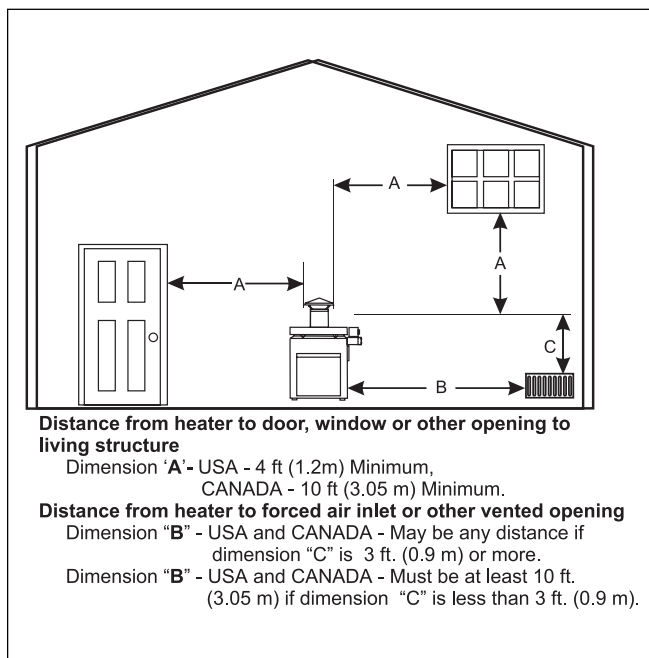

Figure 4. Outdoor Heater Installation.
Locate the heater in an **open, unroofed area**. Do not install the heater under a deck. Do not locate the heater below or adjacent to any doors, glass openings, louvers, grills, etc., which connect in any way with an inhabited area of a building, even though the access might be through another structure (e.g., a garage or utility room). In the United States there must be a minimum of four (4) feet (1.22 m) horizontally and four (4) feet (1.22 m) vertically between the heater exhaust point and any door, glass opening, or gravity inlet to a building. In Canada, the heater must be installed so that the exhaust point of the heater is at least ten (10) feet (3.0 m) from any building opening (see Figure 4).